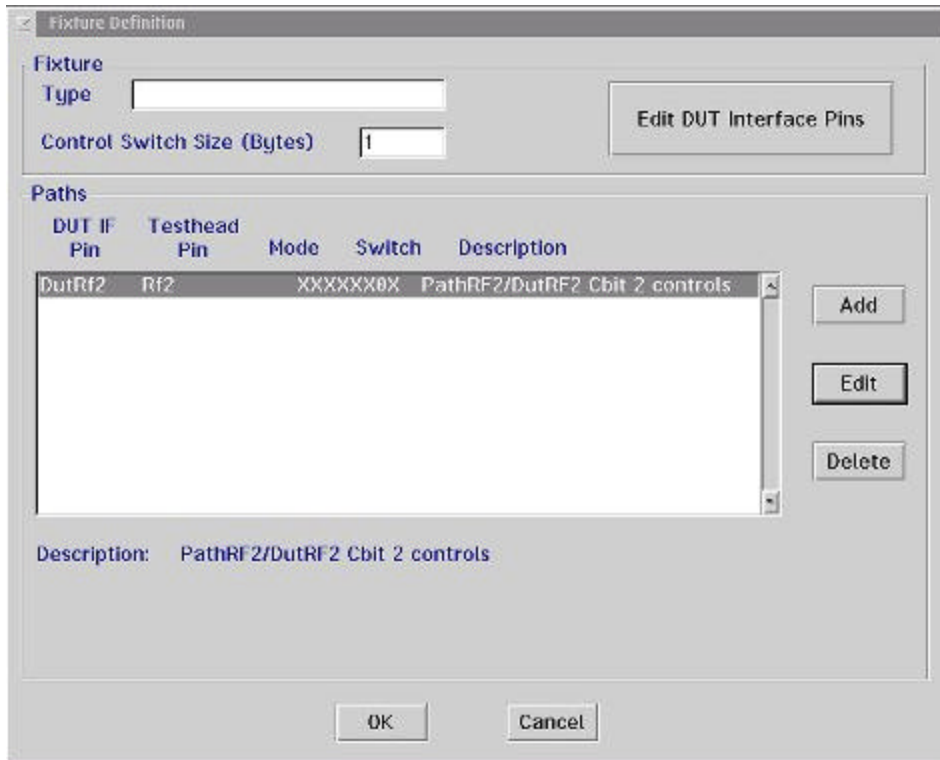

Figure 2
3. Using the right mouse button activate the pull down menu for that fixture and select **Edit**. A **Fixture Definition** window will appear as shown in Figure 2.